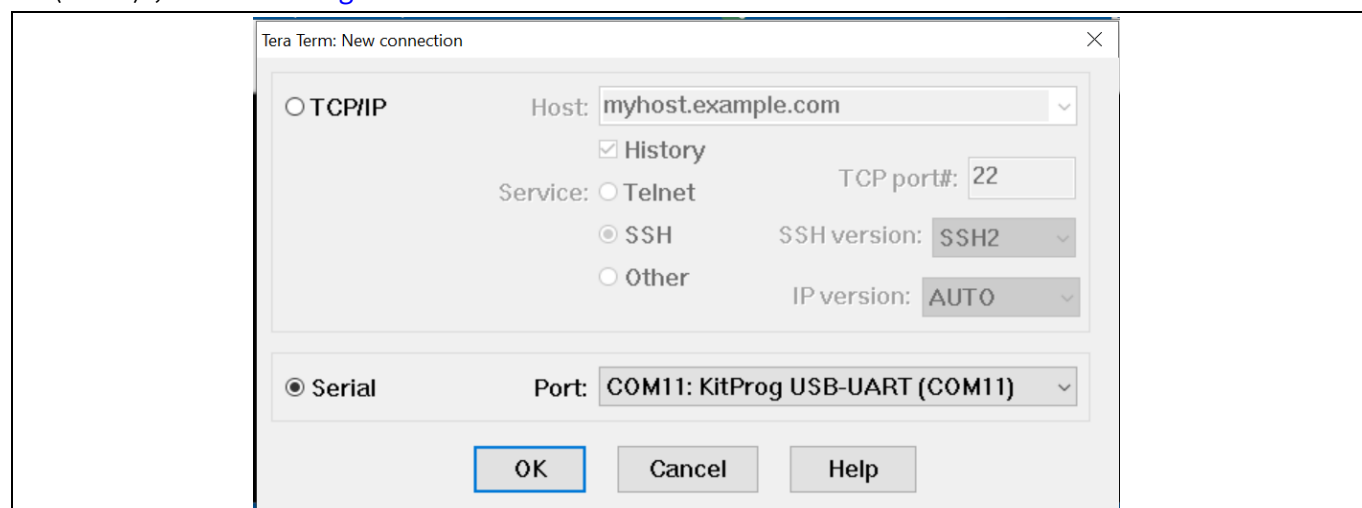

Figure 13 New connection using Tera Term
1. Open Tera Term (or another serial terminal) and set the following: Serial, COM: choose "KitProg USB-UART (COMx)", as shown in Figure 13.